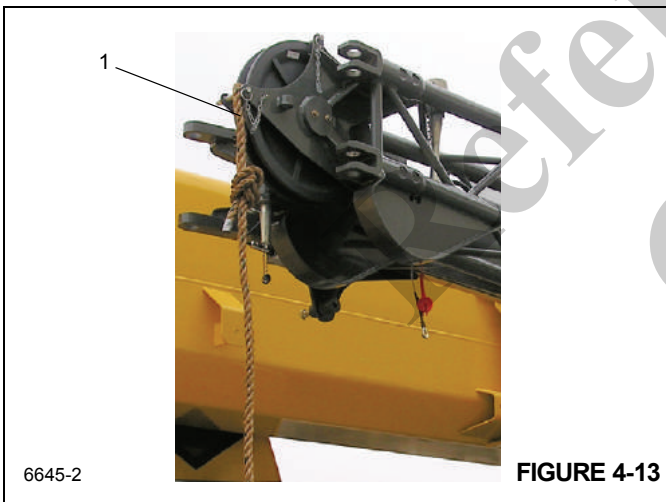

FIGURE 4-13
3. Attach tag line (1, Figure 4-13) to tip of extension and to the superstructure.